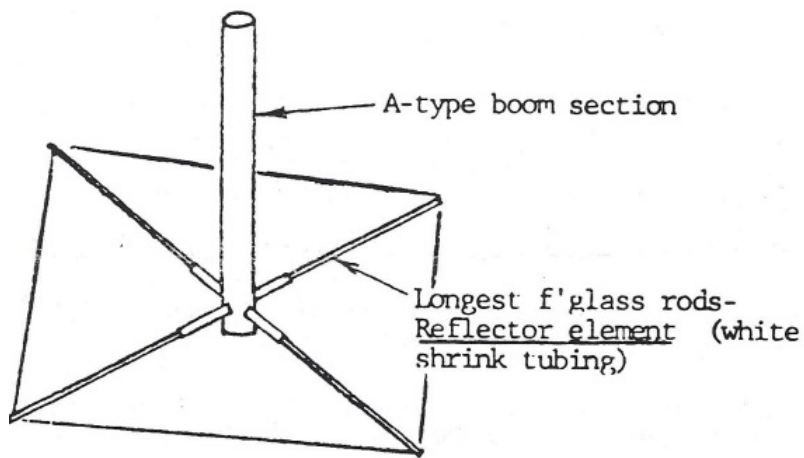

figure 5
6. There are 6 bundles of fiberglass rods. Select the 4 longest rods, and insert them in the 1/2" dia rod support brackets in the A-type boom section from step 2. (The drilled end of the rods must be away from the boom). Carefully unroll the REFLECTOR element wire. This wire is identified by WHITE shrink tubing, marking the points of attachment to the fiberglass rods. Attach the wire to the rods using 4 wire clamps and 4-40 hardware, including 4-40 X 3/4 bolts, nuts, & lockwashers. Refer to figures 5 & 6.